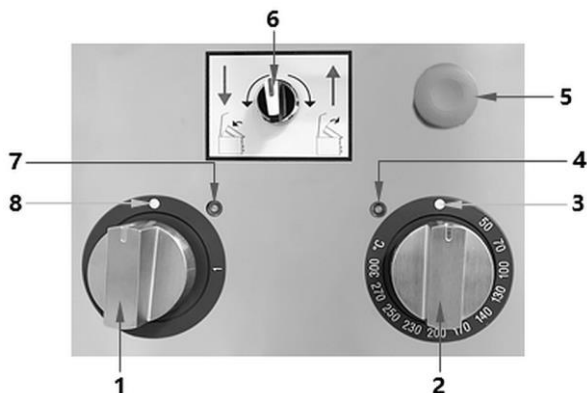

Fig. 5
1. Turn the main control knob (1) to position 1 (Fig. 5).
The tilting frying pan with electric motorised tilting device has a red emergency stop button (5) on the front (Fig. 5), which allows operation to be interrupted at any time due to a malfunction of the device or an emergency situation.
1. Press the emergency stop button (5) to block the operation of the device.
The electric motor-driven tilting device raises or lowers the crucible for easy emptying by pressing the switch (6, Fig. 5).